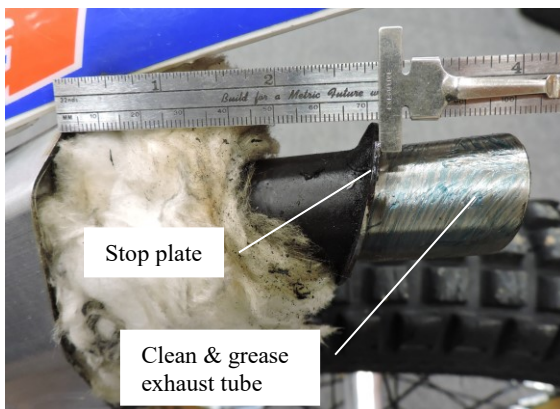

Figure 3- Cleaned & greased exhaust tube & measurement of stop plate to end of silencer.
- 4) Clean the end of the exhaust tube using emery paper or a wire wheel and apply some grease to aid installation of the adapter (Ref. Figure 3). As shown in Figure 3 the stop plate should be roughly 70mm away from the top end of the silencer when it is fully inserted into silencer body. If this measurement is 80mm+ the perforated tube may not be fully inserted into the silencer body, this must be corrected or the end cap will not slide on completely.